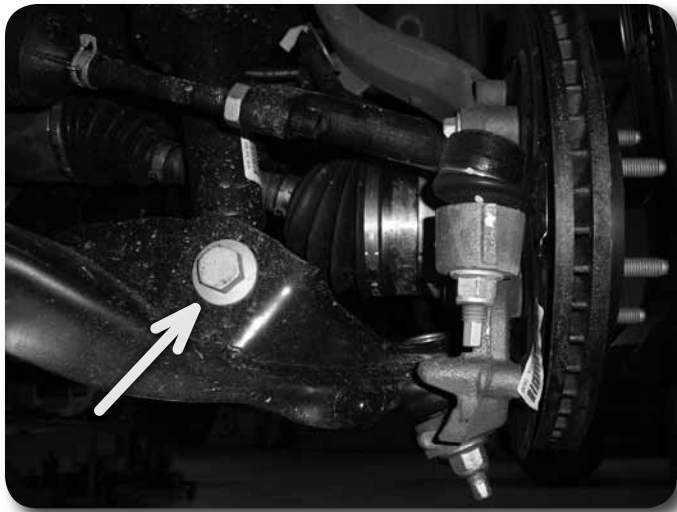

Figure 7
12. Remove the lower strut mount bolt/nut at the lower control arm. **Figure 7** Lower the control arm and remove the strut from the vehicle. Save lower strut hardware.